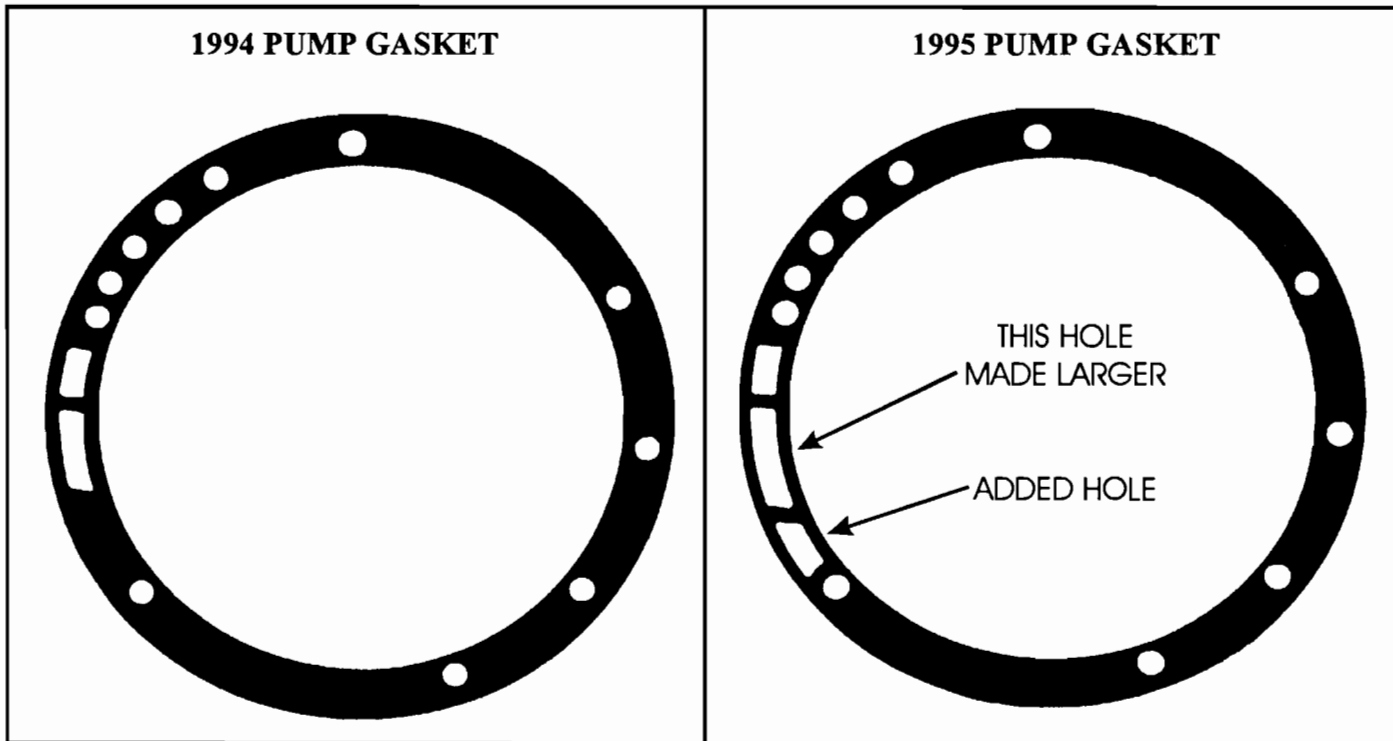

Figure 5
- (3) **REAR (FORWARD) CLUTCH DRUM** - Configuration on the number 3 thrust washer surface inside of the clutch drum changed to accommodate the new design No. 3 thrust washer as shown in Figure 2 thru Figure 5.